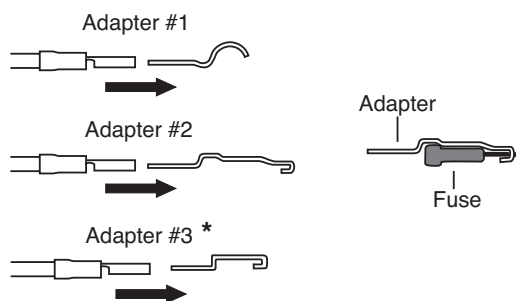

fig. 28
2. Connection to the fuse terminal will depend on what type of fuse your vehicle uses (Fig. 28).